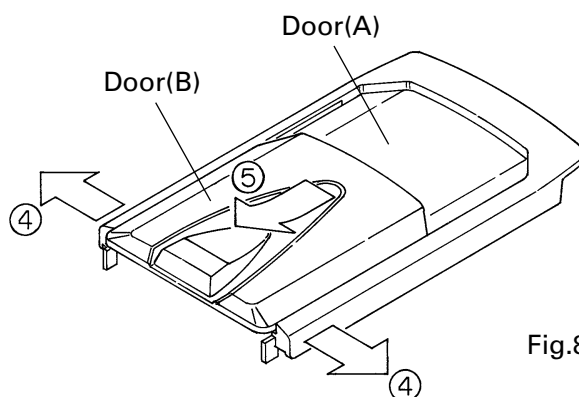

Fig.8
2. The slide is done in the direction of arrow⑤ and remove the Door(B) while spread out the Door(A) in the direction of arrow④. (Fig.8)